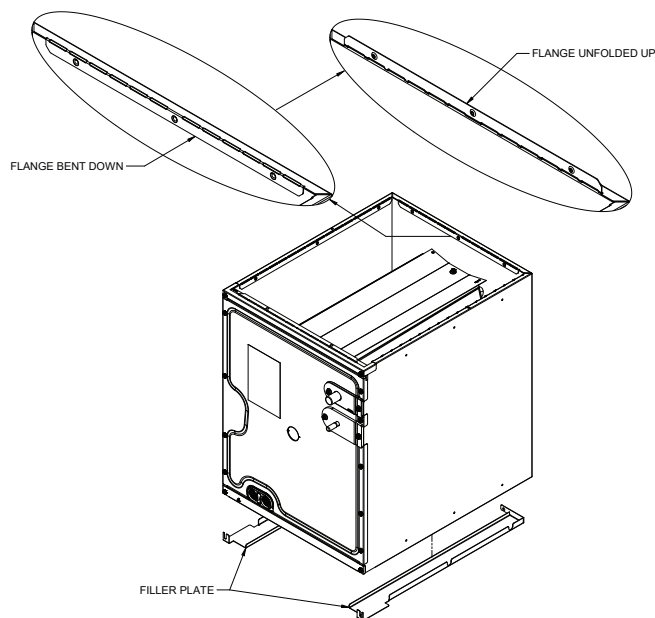

Figure 6
- Top flanges can be bent for ease in installation to the duct flanges. (See Figure 6)
Filler plates are supplied on all 17.5, 21, & 24.5 inch chassis to be used for adapting the unit to a furnace one size smaller. If the plenum and furnace openings are the same size, the filler plates must be removed. See Figure 6.